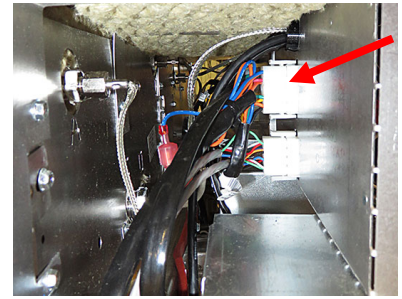

Figure 5
- b. If replacing the high limit, locate the associated wires and disconnect the top plug on the rear of the component box (see Figure 5). Using a pin pusher, push the wires from the connector.